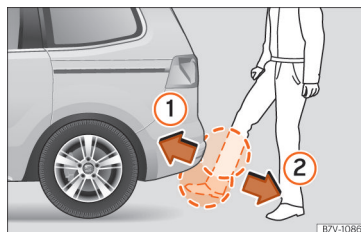

Fig. 106 Rear lid with sensor-controlled opening (Easy Open).
- With a brisk movement, bring your foot and lower leg as close as you can to the bumper. The lower part of the leg needs to be close to the upper sensor area and your foot must be close to the lower sensor area »» Fig. 106 ①.
- Quickly remove your foot and lower leg from the sensor areas »» Fig. 106 ②. The rear lid will be automatically opened.